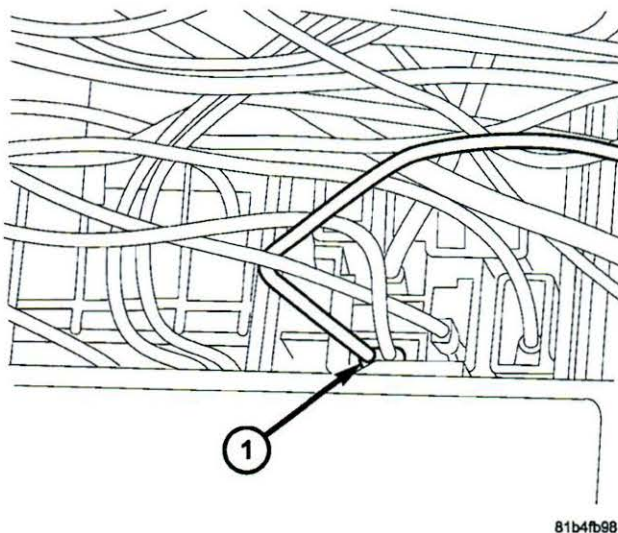

Fig. 1 TWO 20 GA. PK WT WIRES IN CAVITY A13
6. Locate the terminal end in PDC cavity A13 that connects to the ASD relay pin 85. Two 20 gauge wires, each of PK/WT color, are crimped to this terminal end (Fig. 1).